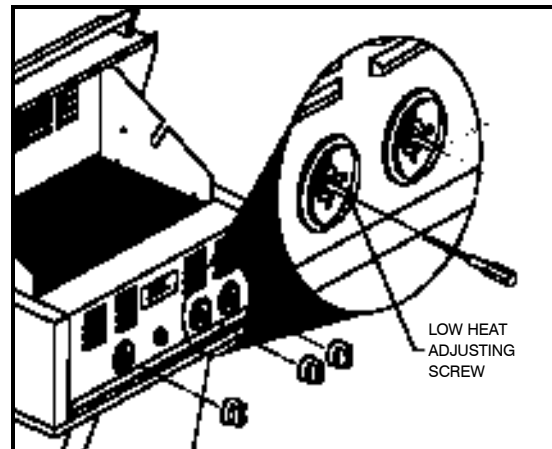

Figure 15. Low Heat Adjustment
3. Remove the Burner Output Knob from the valve stem. (See Figure 15.)